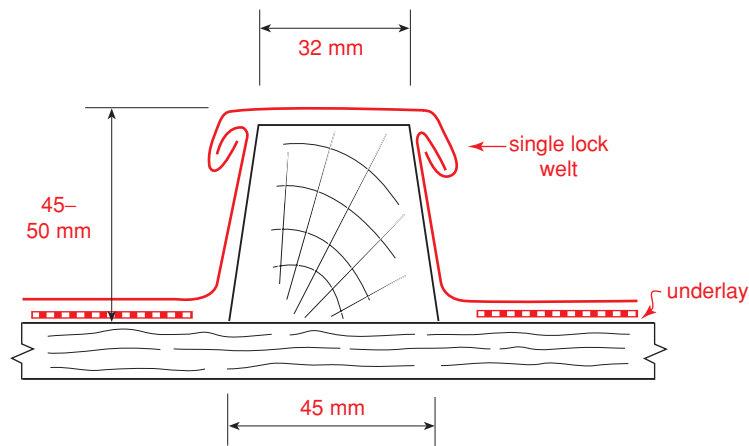

Figure 40
- (100) Figure 40 shows a batten roll as used for copper and aluminium roof coverings. Complete the illustration to show how the sheet material is weathered at this detail, giving dimensions and explanatory notes as necessary. (Page 373.)